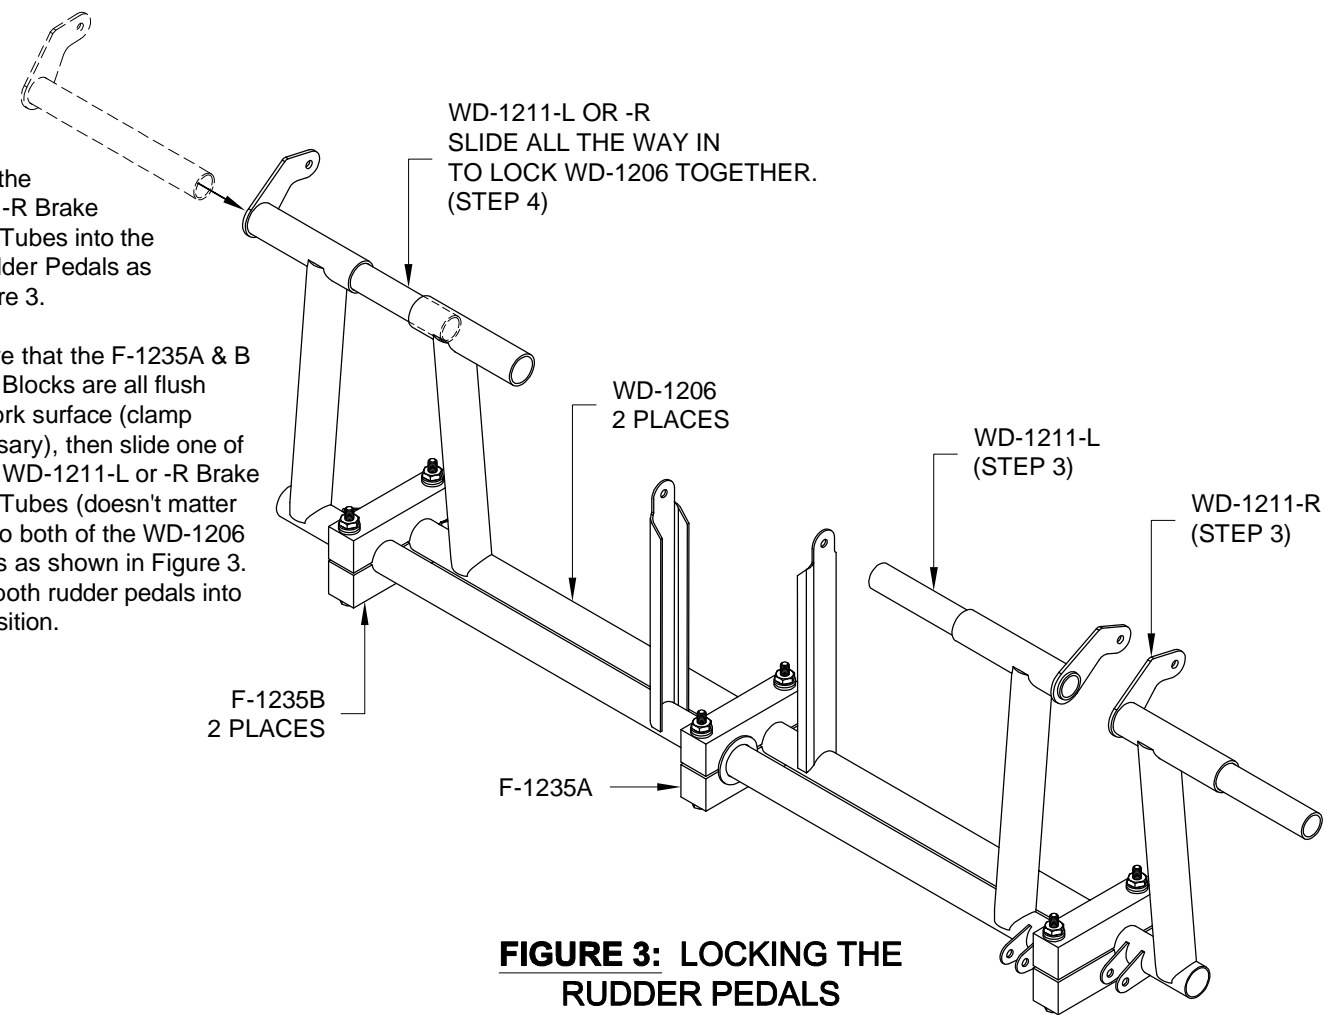
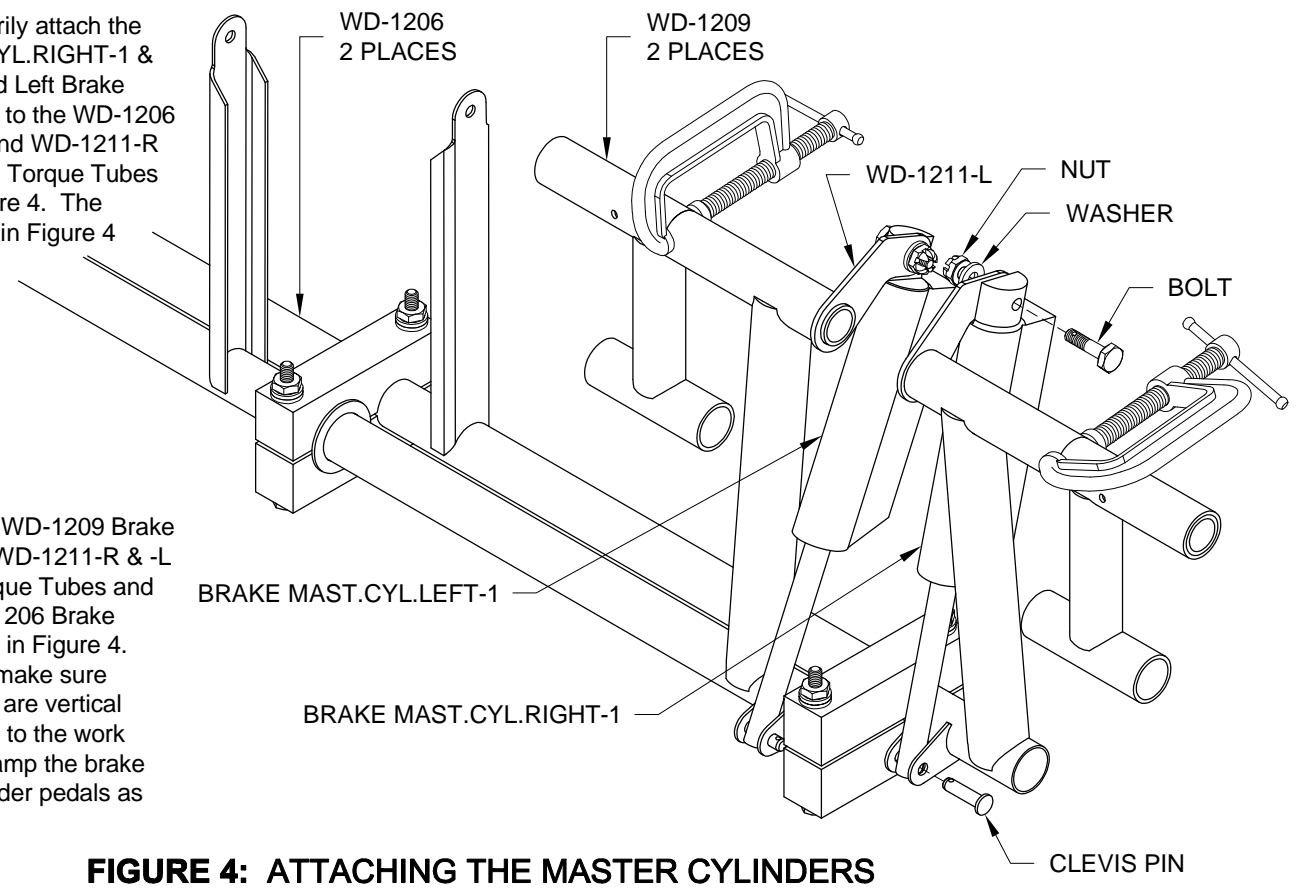

FIGURE 3: LOCKING THE RUDDER PEDALS
FIGURE 4: ATTACHING THE MASTER CYLINDERS
Step 3: Slide the WD-1211-L & -R Brake Pedal Torque Tubes into the WD-1206 Rudder Pedals as shown in Figure 3.
Step 4: Be sure that the F-1235A & B Rudder Pedal Blocks are all flush against the work surface (clamp down if necessary), then slide one of the remaining WD-1211-L or -R Brake Pedal Torque Tubes (doesn't matter which one) into both of the WD-1206 Rudder Pedals as shown in Figure 3. This will lock both rudder pedals into the neutral position.
Step 5: Temporarily attach the BRAKE MAST.CYL.RIGHT-1 & LEFT-1 Right and Left Brake Master Cylinders to the WD-1206 Rudder Pedals and WD-1211-R & -L Brake Pedal Torque Tubes as shown in Figure 4. The hardware shown in Figure 4 is called out on Page 27-03, Figure 3.
Step 6: Slide the WD-1209 Brake Pedals over the WD-1211-R & -L Brake Pedal Torque Tubes and against the WD-1206 Brake Pedals as shown in Figure 4. Use a square to make sure the brake pedals are vertical (or perpendicular to the work surface), then clamp the brake pedals to the rudder pedals as shown.